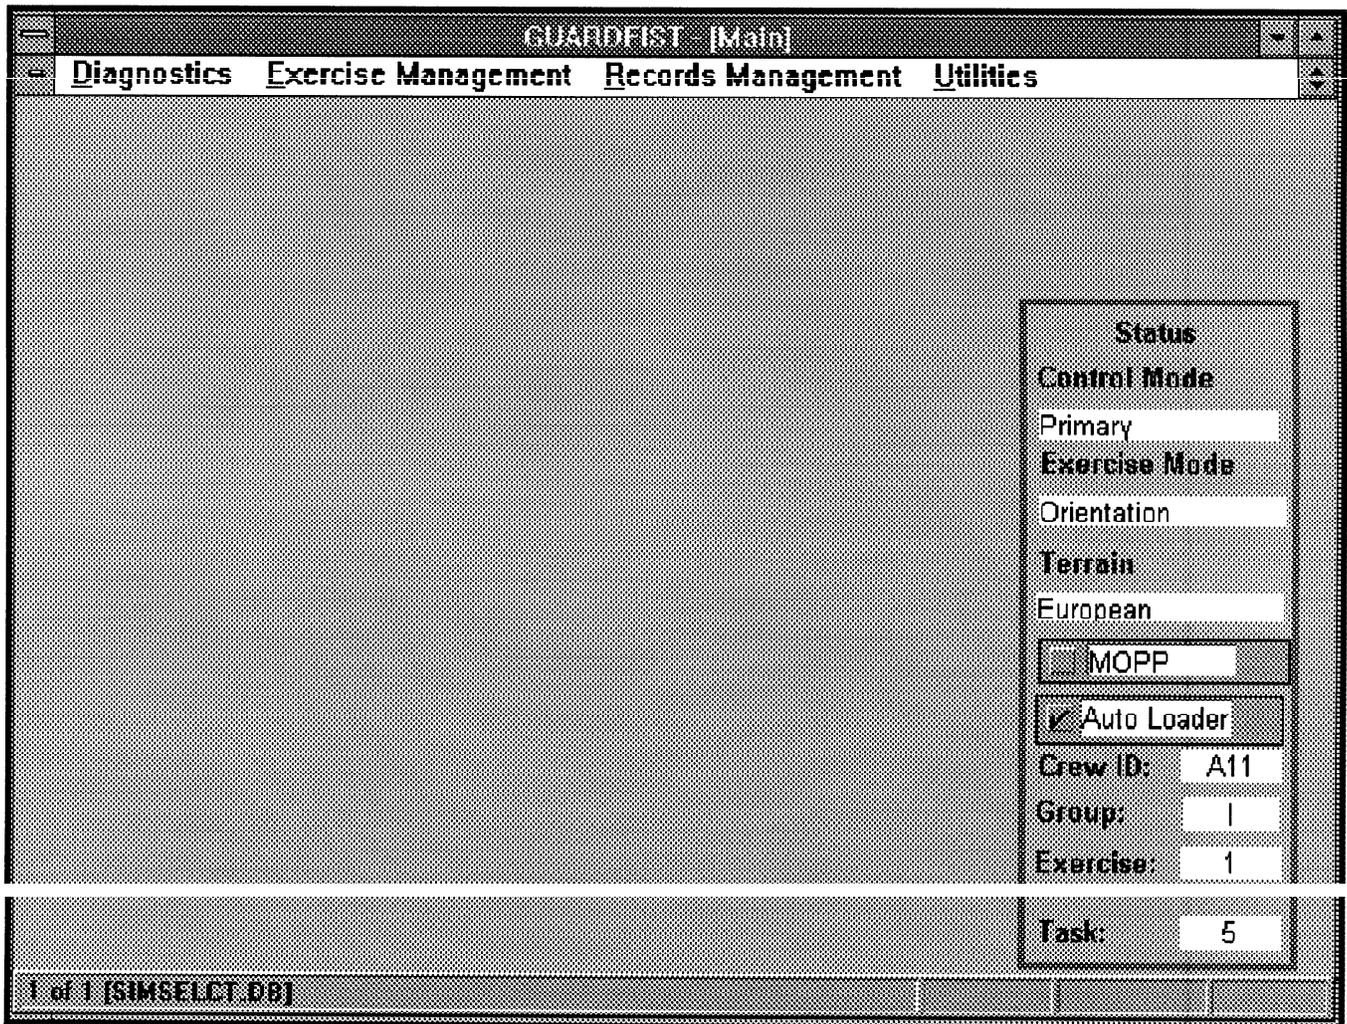

Figure 2-82. Basic Screen Format
2.6.1 Basic Screen Format. The AFIST screens were developed using a basic screen format to standardize and simplify the screens. The components of the basic screen format are shown in Figure 2-82.